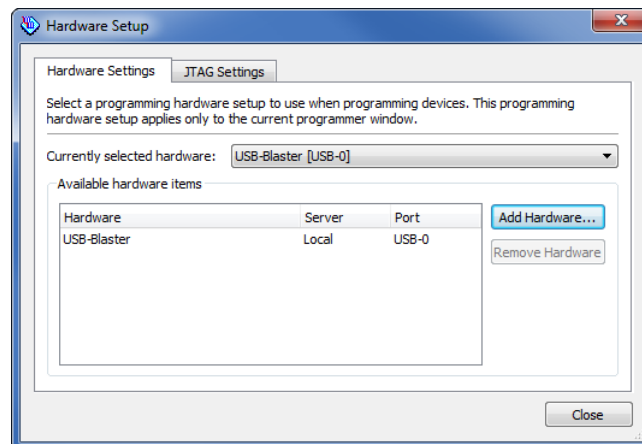

Figure 11. Setting up hardware.
- For SignalTap II to work, we need to properly set up the hardware. First, make sure the DE-series board is plugged in and turned on. In the Hardware section of the SignalTap II window, located in the top right corner, click Setup..., bringing up the window in Figure 11. Double click USB-Blaster in the Available Hardware Items menu, then click Close.